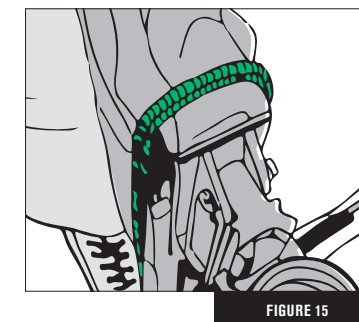

FIGURE 15
3. Place the center of the cocking rope in the rope groove. (Fig. 15)